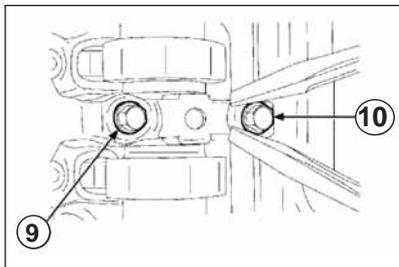

Figure 3 Apply pressure and shift cap No. 8L toward exhaust side on 3.0L engines.
5) Using a screwdriver positioned on each side of the top of cam cap No. 8L (**Figure 3**, below) apply hand pressure and shift cam cap No. 8L toward the exhaust side of the cylinder head.
6) While holding cam cap No. 8L in the shifted position, torque the fasteners, No. 9 (inboard) first, to 72 in.lbs. (8 Nm) then torque fastener No. 10 to 72 in.lbs. (8 Nm) (**Figure 3**).